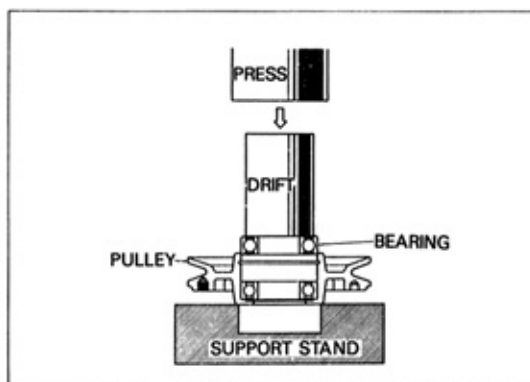

Fig. 75
- a) Place the clutch pulley with pulley side up on the press as shown in Fig. 75 and insert two new bearings into the bore till fully seated.